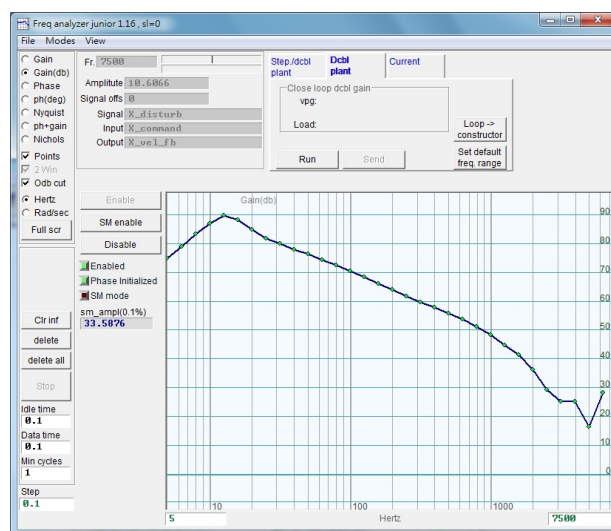

Figure6.6.3.3
- Step 4: Click the left mouse button on the frequency response diagram to appear the cursor line of -20 dB. Press and hold the left mouse button to drag the cursor line to close to the line of frequency response, as shown in figure 6.6.3.4. Dragging the line will re-calculate the gain and display the vpg value at any time. The gain is increased when the cursor line is dragged downward; while decreased when it is dragged upward.